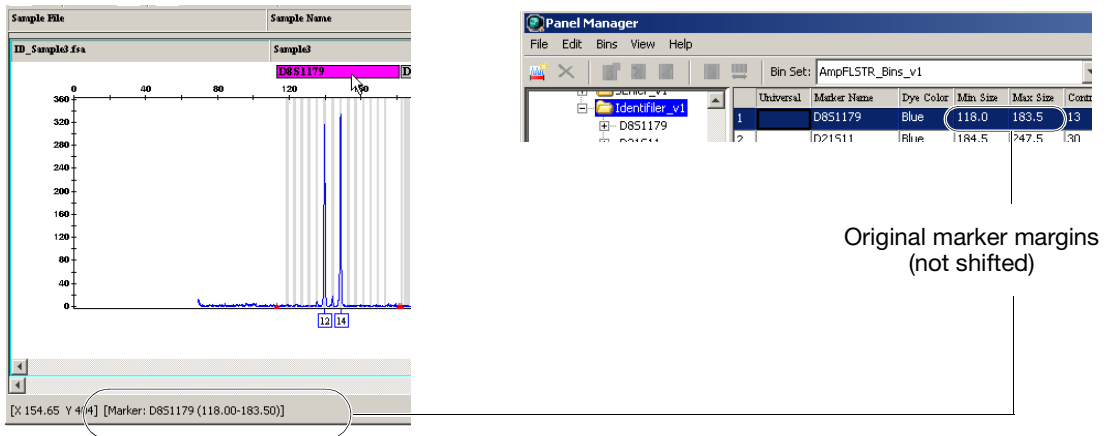

Figure 23 Original marker margins are displayed when you click the marker header in the Samples plot and in the Panel Manager
**Note:** Reference marker margins that are defined in the panel are displayed when you click the marker header in the Samples plot and in the Panel Manager (Figure 23).